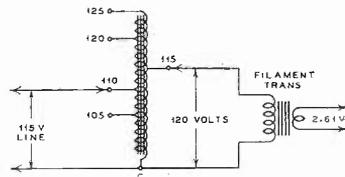

Fig. 4
• Example: It is desired to obtain 2.61 volts from a 2.5 volt filament winding to compensate for the drop in the filament wiring. If the line voltage is 115 volts and if the filament transformer has a 115 volt primary the taps on the autotransformer are determined by the junction of a line drawn from "2.61 volts" and also a line drawn from "115 volts" as shown by the dotted lines. These two lines intersect on the curve marked "AC Line to 110 V Tap. Fil. Trans. to 115 V Tap." The 115 volt line is connected between C and 110 on the autotransformer and the primary of the filament transformer is connected between C and 115 as shown on Fig. 4.